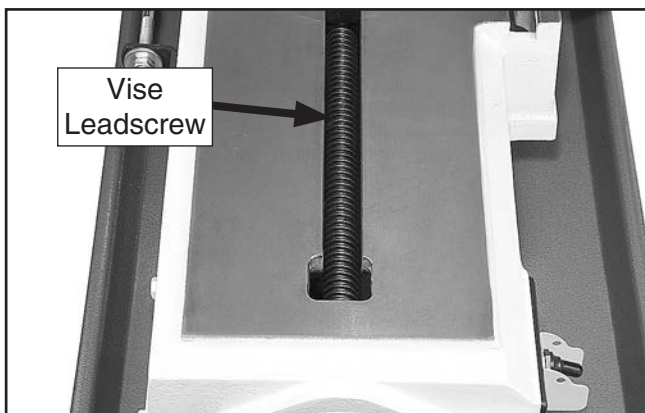

Figure 52. Location of vise leadscrew.
3. Use mineral spirits and a brush to clean existing grease and debris off of vise leadscrew shown in **Figure 52**. Allow leadscrew to dry.